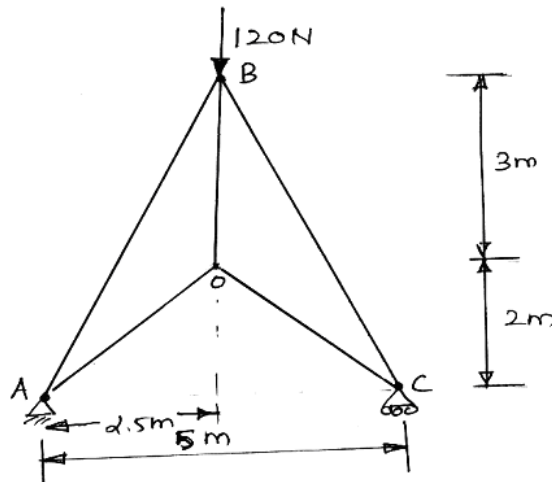

Fig. Q.12(a)
12. (a) Analyse the simply supported truss shown in Fig. Q.12(a) by method of joints.